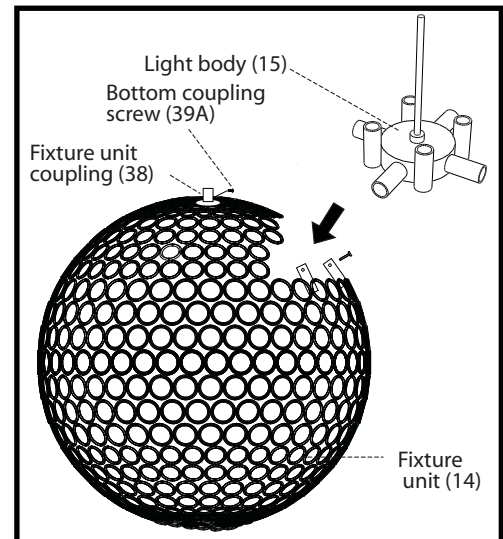

FIG. 3
Step 4: Fit the light body (15) through the open section of fixture unit (14) and slip electrical and ground wires up through top center hole of fixture unit. Secure light body (15) to fixture unit coupling (38), by tightening bottom coupling screw (39A) FIG. 3